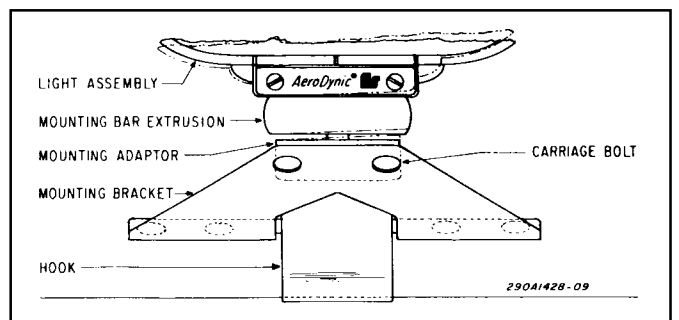

Figure 9.
5. Check to ensure that the Light Assembly is level front-to-back. If the light is not level (pointing up or down), it can be adjusted by loosening the carriage bolts on the side of the mounting bracket assembly (see figure 9) and "rocking" the light up or down until it is level. Tighten the carriage bolts after adjustment.